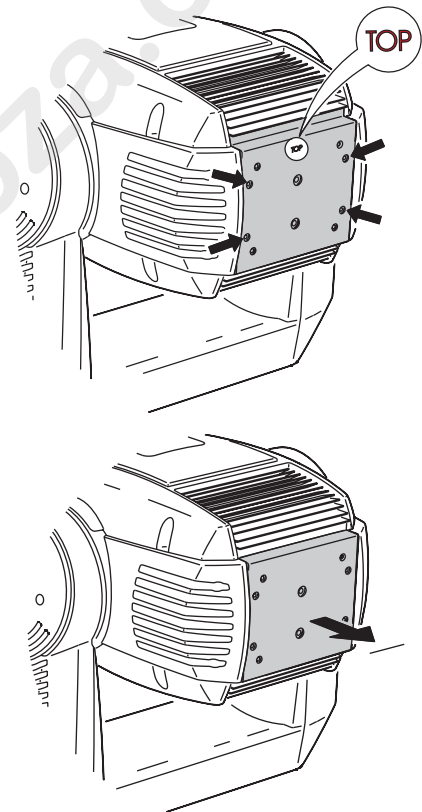

Figure 6: Lamp access
- 2 See Figure 6. Release the 4 quarter-turn fasteners marked with arrows on the rear plate. Pull the lamp assembly straight back as far as it goes and let it rest on its retaining pins.